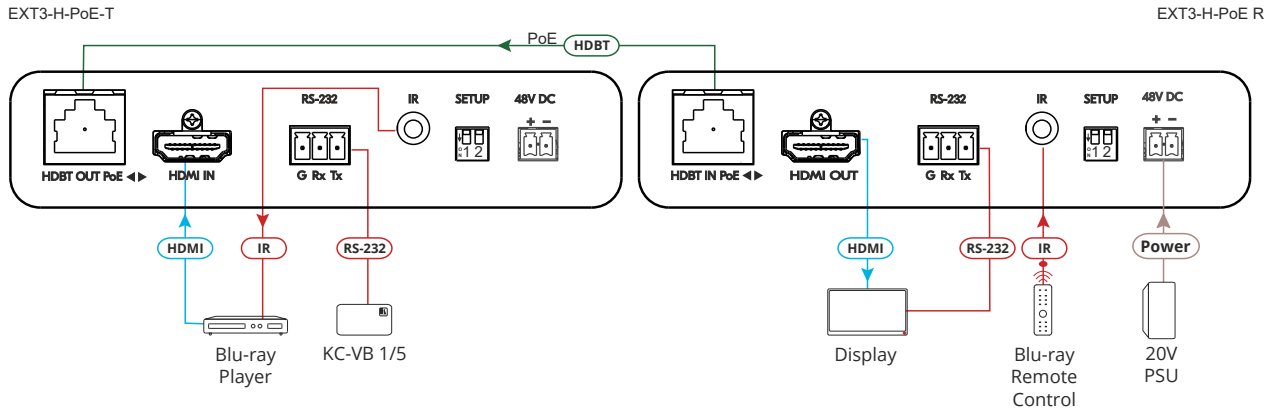

Figure 3: Connecting to the EXT3-H-POE-T/R
To connect EXT3-H-POE-T/R as illustrated in the example in Figure 3:
6. Connect the power adapters to the receiver and to the mains electricity (as shown in Figure 3).